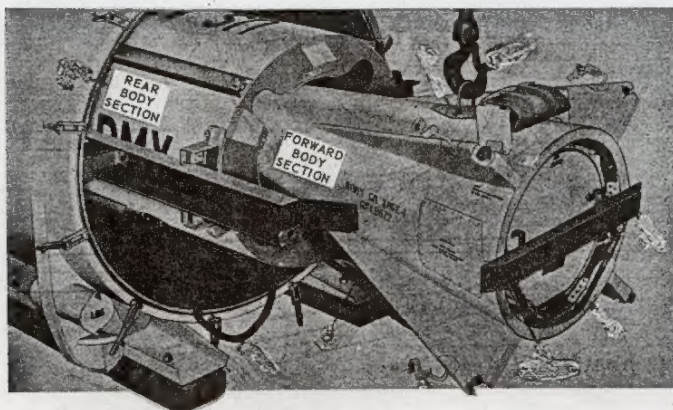

Figure 3-1. Body section container.
- (1) The forward and rear body sections are received in a metal end-opening container pressurized with dry air (5 psi). It has a gross weight of approximately 4,600 pounds. The forward body section is packaged inverted in the rear body section (fig 3-1).
- (4) Remove the container cover, bolts, and brackets to permit sliding the body sections forward on the tracks (fig 3-1).
- (5) Inspect contents for visible damage and check against the packing list.